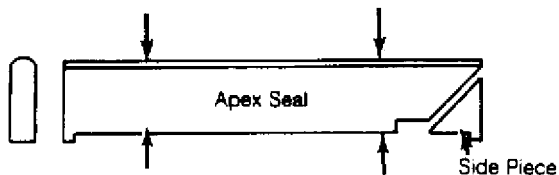

Fig. 14: Measuring Apex Seal Height
1) Clean all carbon from apex seal and spring with cleaning solution (not emery paper). Measure height of apex seal with micrometer. See Fig. 14. Replace seal if height is less than .275" (7.0 mm).